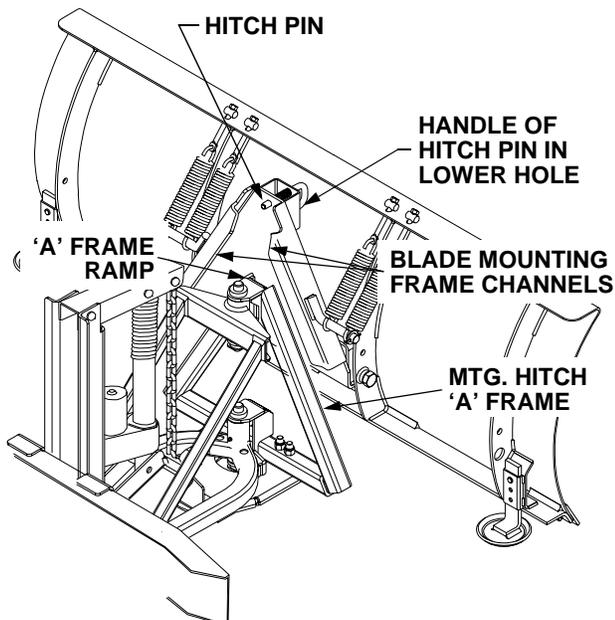

Figure 1
2. Make certain the blade hitch pin extends through the rear hole in the blade mounting frame, and the handle of the pin is in the lower hole at the front of the mounting frame. See Figure 1.
4. Slowly driving the vehicle forward, align the top of the mounting hitch 'A' frame with the side channels of the blade mounting frame. See Figure 1.
5. Using the toggle switch, SLOWLY raise the mounting hitch while making sure the 'A' frame engages the channels of the blade mounting frame. See Figure 1.
6. As you continue to raise the front hitch, the ramp at the top of the 'A' frame should push the blade hitch pin outward, allowing the 'A' frame to fully engage the blade mounting frame and also aligning the hitch pin with the hole in the front of the 'A' frame. The compression spring on the hitch pin should push the pin through the 'A' frame hole to secure the blade to the mounting hitch. See Figures 1 and 2.